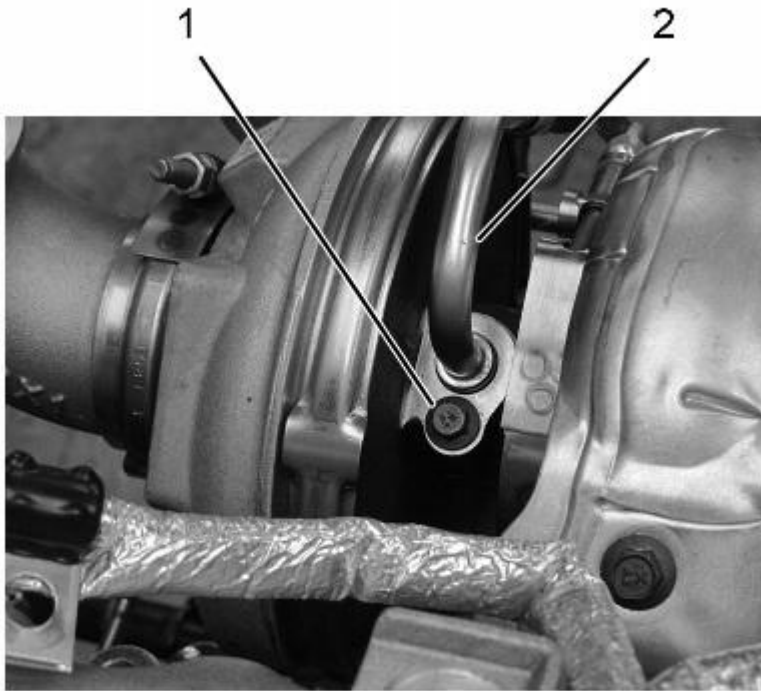

**Figure 7. HP Turbocharger Oil Supply Tube.**
- 18. Remove bolt (Figure 7, Item 1) from oil supply tube (Figure 7, Item 2). Discard bolt.**
- 19. Apply rust penetrating oil to oil supply tube (Figure 7, Item 2) and disconnect from HP turbocharger.**